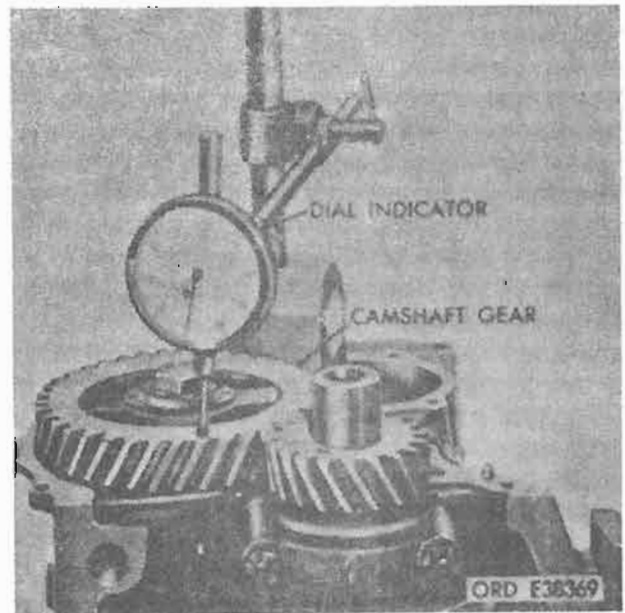

Figure 4-102. Measuring timing gear runout.
c. *Timing Gear Runout* (fig. 4-102). Place dial indicator on cylinder block with the indicator tip against camshaft gear. Hold gear firmly toward block and rotate one full turn and note runout on indicator dial. Refer to repair standards (table 4-8).